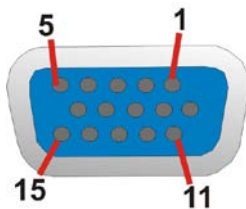

Figure 3-32: VGA Connector
- CN Pinouts:** See **Figure 3-32** and **Table 3-35**